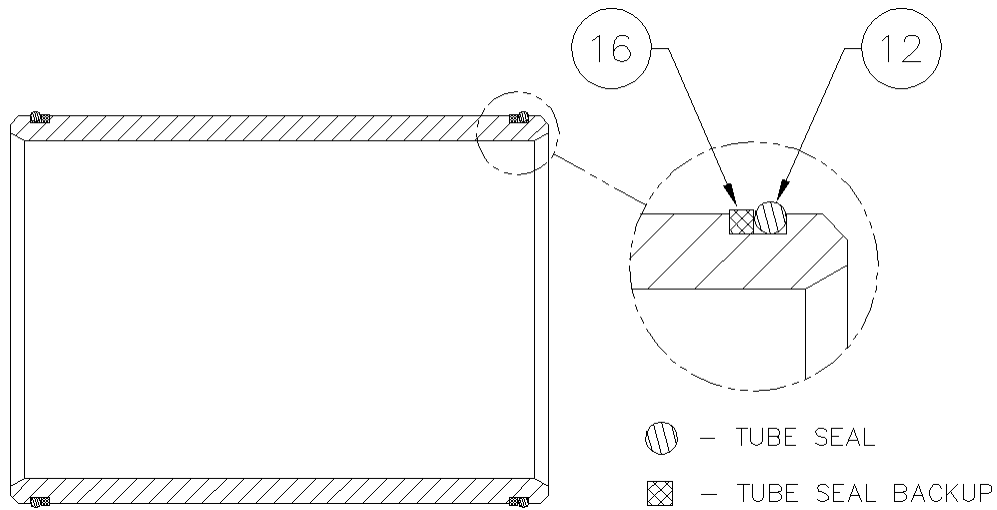
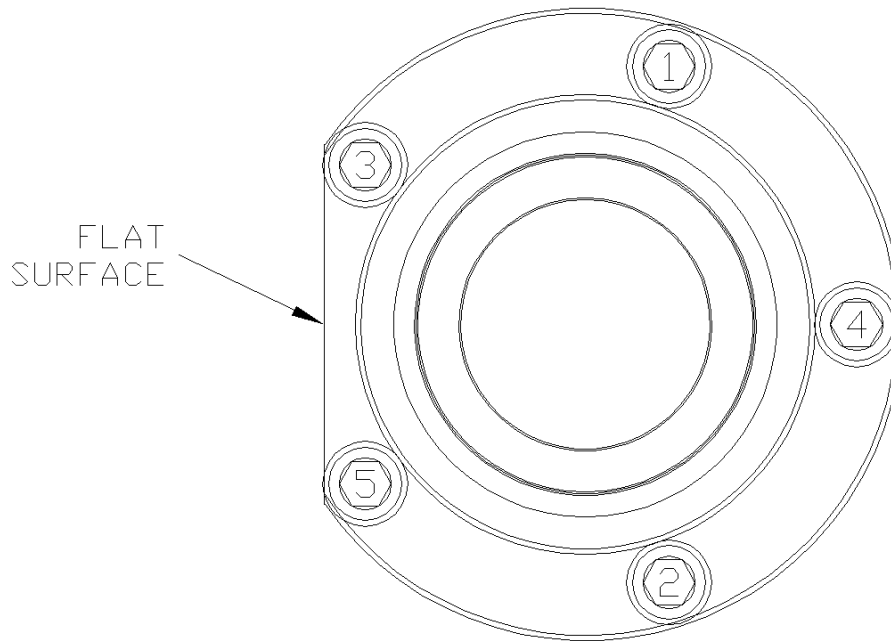
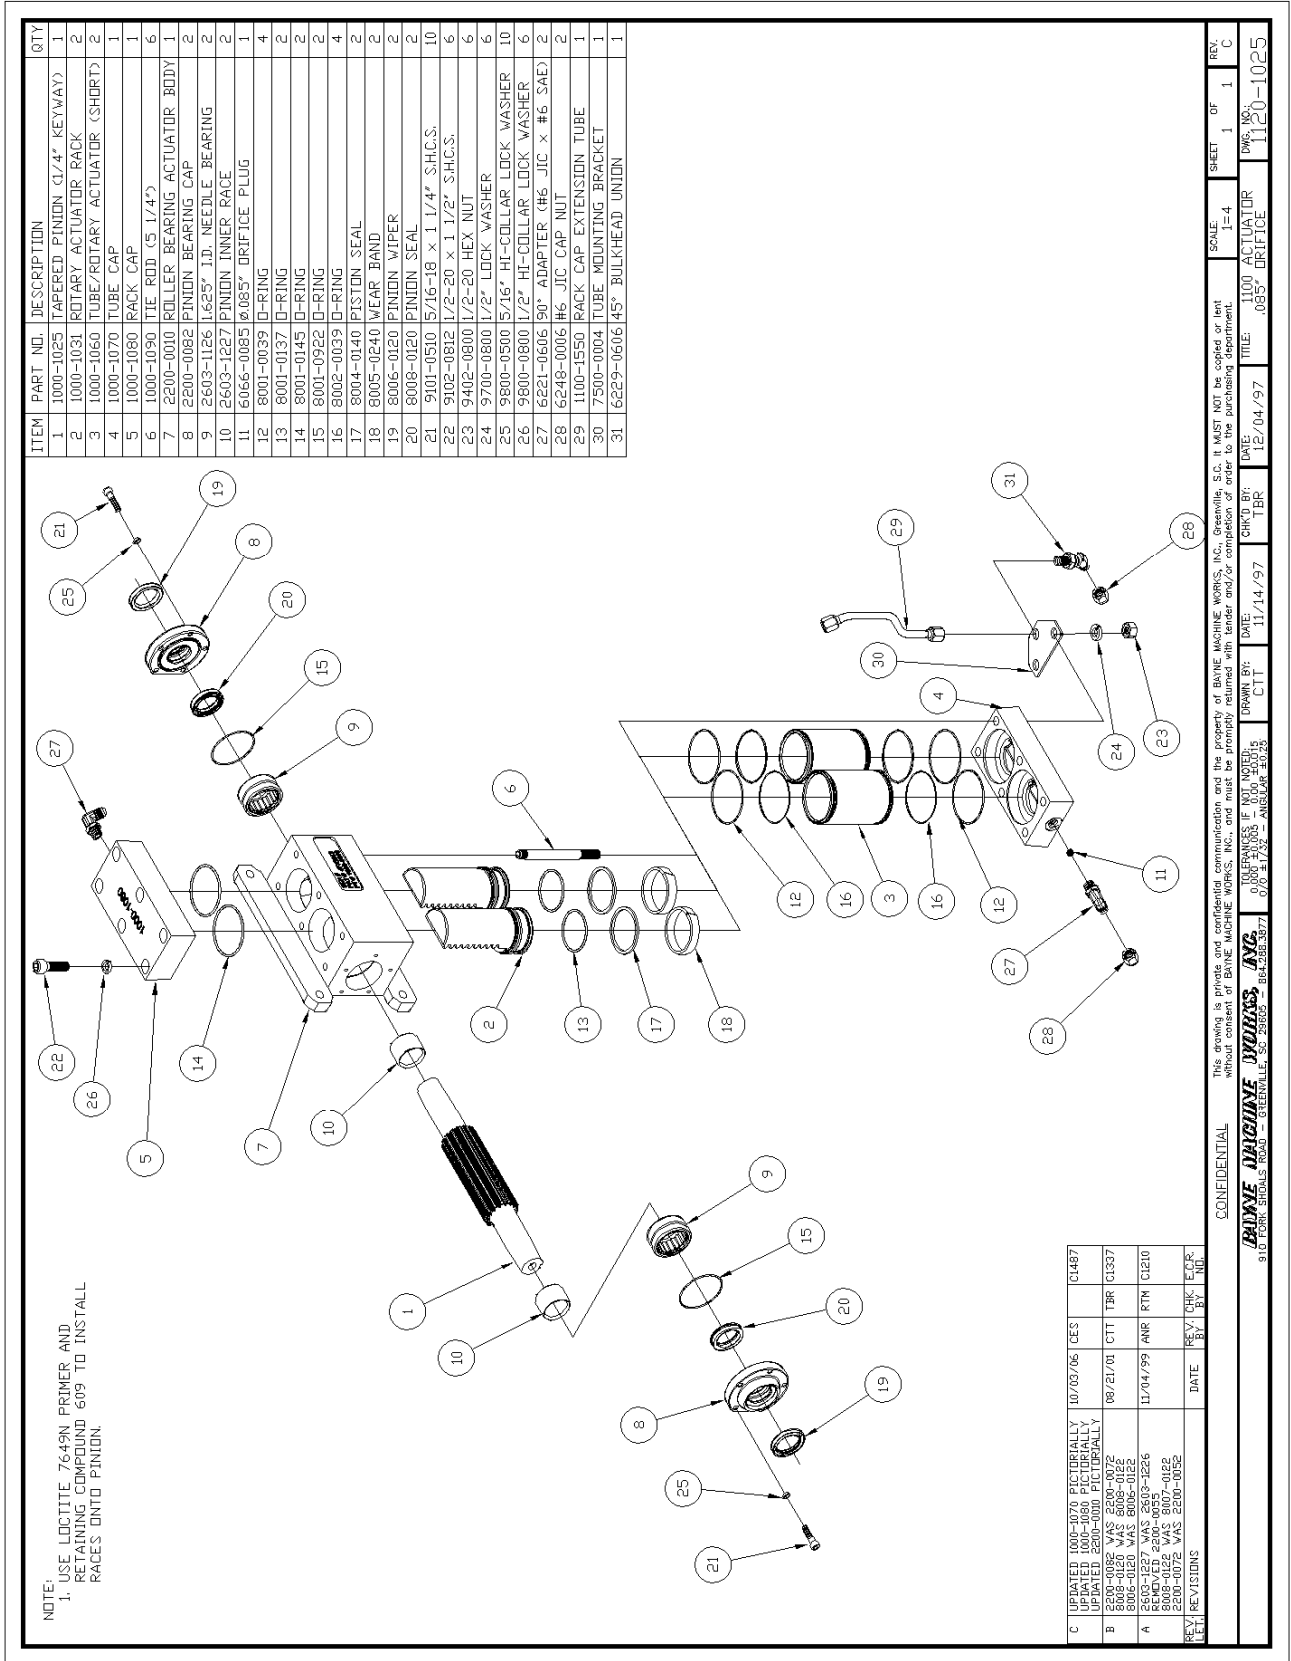

figure A-2
figure A-12
figure A-13
Before starting the assembly of the Rotary Actuator, refer to the exploded parts drawing and parts list (fig. A-13 found at the end of these instructions) to familiarize yourself with the individual components. Prepare a clean surface, in an area free of blowing dust and contaminants in which to assemble the Rotary Actuator. Be sure that all parts are thoroughly clean and dry before starting assembly.
2. Install the tube seal (12) (fig. A-2) and “square” tube seal backup (16) on each end of the actuator tubes (3) (fig. A-13). Be sure that the “square” tube seal backup ring is toward the inside of the tubes at both ends as shown. Press all rings firmly into the grooves. Repeat this procedure for the other tube.
- Coat the head portion of the racks (2) (fig. A-13) with STP Oil Treatment. Install the racks, head portion up with the teeth facing the flanges of the actuator body, into the dual set of bores in the body. Simultaneously slide the racks into the bores so that the racks mesh with the pinion in the same position. Rotate the pinion shaft to engage the racks into the pinion.
7. Coat one end of the actuator tubes (3) (fig. A-13) around the seal area with STP Oil Treatment as shown in figure A-7. Using a rubber mallet, drive the coated end of the tube onto the exposed rack until the tube end seats in the actuator body, making sure that the seals remain in place as the tube enters the counter-bore. Repeat this procedure for the other side.
8. Install the six tie rod studs (6) (fig. A-13) by screwing the short threaded end into the actuator body. Hand tighten only at this time (the torque needed will be applied later in the procedure).
9. Place the tube cap (4) (fig. A-13) on the table. Coat the sides of the two bores in the tube cap with STP Oil Treatment. Install the cap over the tubes and rod studs with the oil port positioned to the left as shown in figure A-13. Using a rubber mallet, tap the tube cap over the tubes until the tubes seat in the cap, making sure that the seals remain in place.
10. Place the tube mounting bracket (30) (fig. A-13) over the two end rod studs opposite the oil port in the tube cap as shown in figure A-13.
11. Install the hex nuts (23) (fig. A-13) and lock washers (24) on the tie rod studs. Torque the nuts to 50 ft-lb. in the sequence shown in figure A-8.
12. Place the rack cap (5) (fig. A-13) bore side up on the table and coat the edge of each bore with STP Oil Treatment. Install the rack cap seals (4) (fig. A-9) in the rack cap.
13. Reposition the actuator on the table mounting flanges down, and the lower tubes facing away from the assembler. Rotate the pinion shaft to allow 1" of the rack to protrude from the top of the actuator body. Install the rack cap with the oil port positioned to the left hand side of the actuator opposite the bottom oil port located in the tube cap as shown in figure A-13. Attach the rack cap to the actuator body using the socket head bolts (22) (fig. A-13) and lock washers (26). Torque the bolts to 90 ft-lb. in the sequence shown in figure A-10.
15. Re-center the actuator pinion in the actuator body by tapping on one end of the shaft with a rubber mallet. Install the roller bearing (9) (fig. A-13), over the pinion shaft and inner race, and into the actuator body. Repeat this procedure for the other bearing.
18. Wrap masking tape or electrical tape around the pinion to cover the edges at the keyway. Slide the bearing cap assembly over the pinion shaft with the bearing cap seal facing toward the actuator body and the flat surface of the flange shown in figure A-12 facing toward the actuator mounting flanges. Press against the bearing cap until the shoulder seats against the actuator body, making sure that the seals remain in place. Install the bearing cap bolts (21) (fig. A-13) and lock washers (25). Hand tighten only at this time. Repeat this procedure for other bearing cap.
19. After both bearing caps have been installed, torque all bearing cap bolts to 30 ft-lb. in the sequence shown in figure A-12.
20. Install the 90° fitting (27) (fig. A-13) into the oil port on the side of the rack cap (5). Hand tighten only at this time.
21. Install the 45° bulk-head fitting (31) (fig. A-13) up through the hole in the tube mounting bracket (30) bolted to the tube cap as shown in figure A-13. The 45° end must be pointing down away from the rack cap (5) and back toward the mounting flanges on the actuator body. Hand tighten only at this time.
22. Install the rack cap extension tube assembly (29) (fig. A-13) between the 90° fitting in the rack cap and the 45° fitting in the tube mounting bracket as shown in figure A-13. Tighten all connections.
23. Install the orifice plug (11) (fig. A-13) into the oil port on the side of the tube cap (4), and install the 90° fitting (27) into the oil port over the orifice plug as shown in figure A-13. Turn the fitting so that it points down away from the rack cap (5) and back toward the mounting flanges on the actuator body and tighten.
24. Install the cap nuts (28) (fig. A-13) onto the open fittings to prevent contamination of the unit until the hoses are installed.